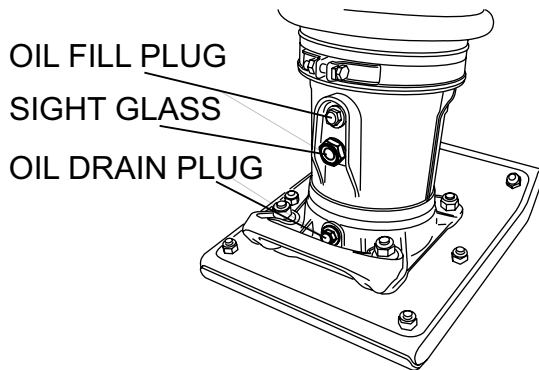

Figure 3. Foot Housing Sight Glass
1. Check the oil level through the oil level sight glass (Figure 3) at the rear of the tamper foot.
2. If oil is not visible, add 10W-30 SE, SF or higher grade motor oil into the oil fill plug opening (Figure 3). The bath contains approximately 1.7 pints (820 cc.)